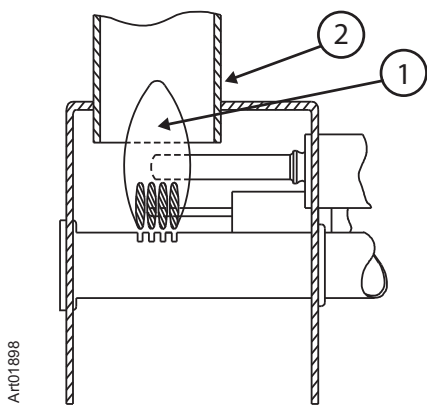
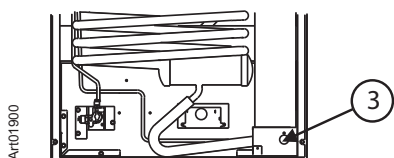

Figure 2. Burner Box
Figure 3. Burner Box Location
3. Open the burner box door [3] and look at the gas flame [1] (see Figure 2 and Figure 3).